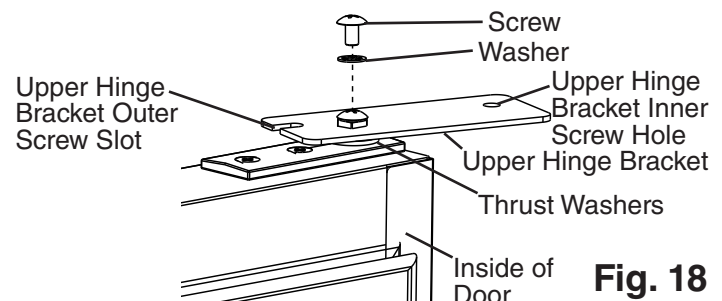

**Fig. 18**
- 11) Make sure the thrust washers are in place on the spring cartridge, then flip the upper hinge bracket over from its original position and install onto the spring cartridge in the door open position. See Fig. 18. The upper hinge bracket should be positioned as shown.